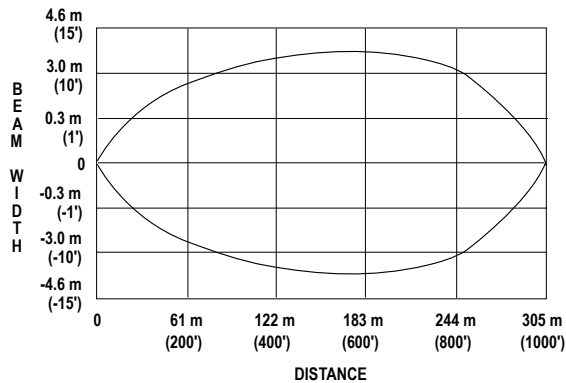

Figure 2. Beam Pattern
1. When multiple sensors are used in close proximity (see Figure 2, Beam Width for guidance on separation distance), position sensors such that the alternate frequency emitter is not within the receiver's field of view. Contact the Banner Application team for additional information